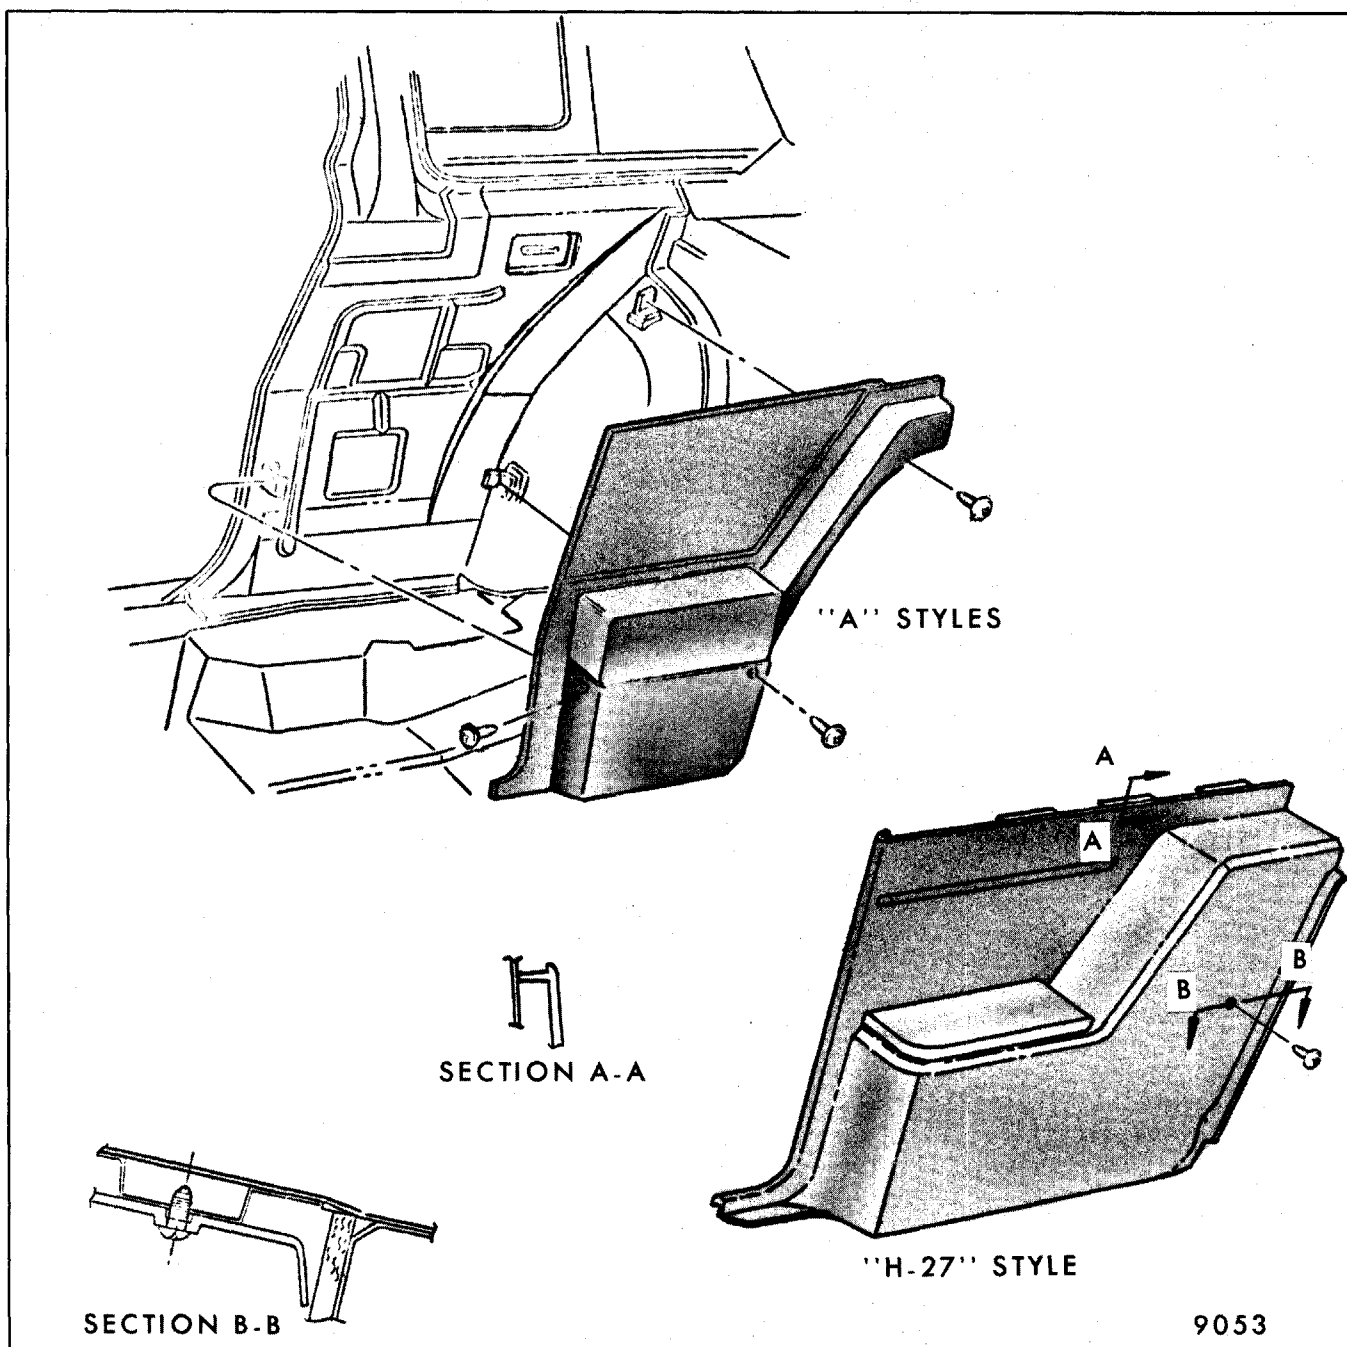

Fig. 6-4-Quarter Trim Assembly Attachment - "A and H-27" Styles
- a. On "A" styles, remove three attaching screws securing panel assembly to brackets (Fig. 6-4).